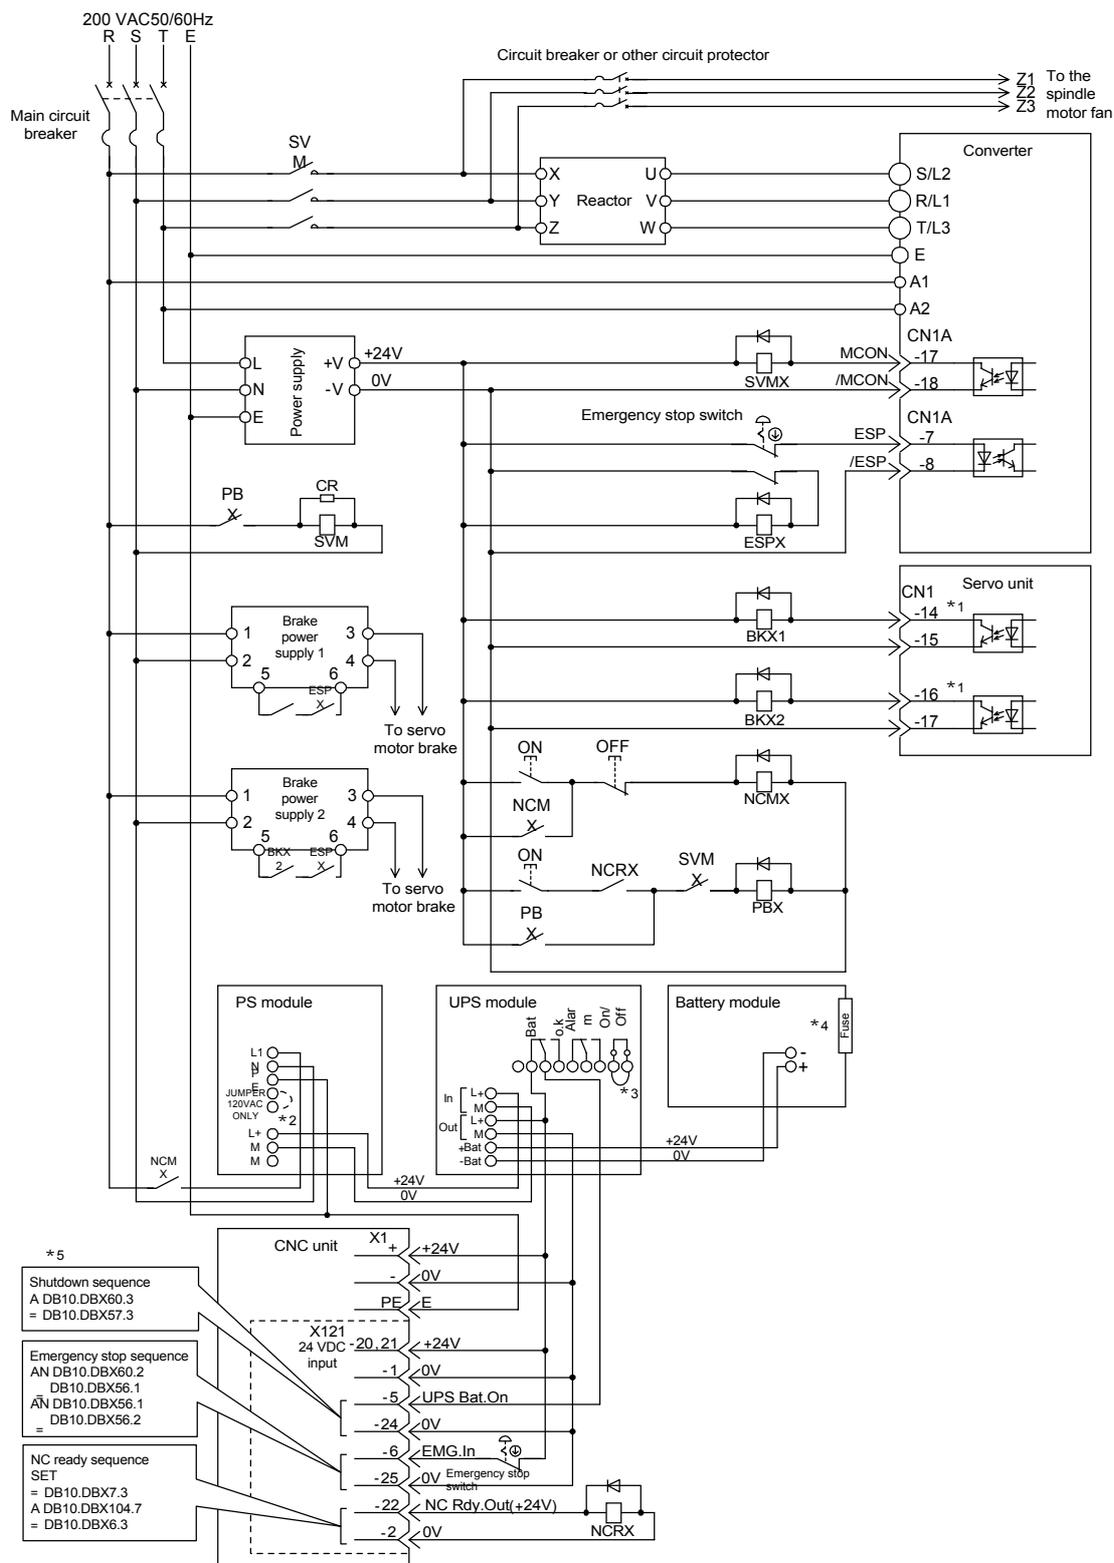

Fig. 4.1 Wiring for the SVMX and BKX output signals
- *1. The brake release output signal as shown in Fig. 4.1 is for 2-axis servo units. For 1-axis servo units, use only pins 14 and 15. For 2-axis servo units, use pins 14 and 15 for the first axis, and pins 16 and 17 for the second axis.
- The UPS module must not be used to power other than those units shown in Fig. 4.1.